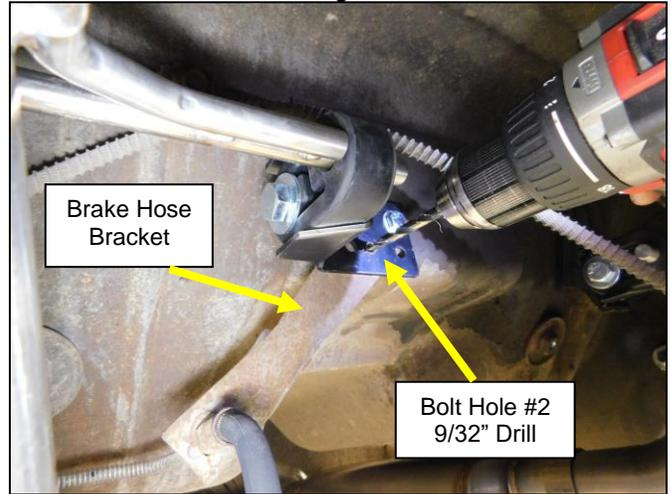

Figure 7
9. Use a 9/32 drill bit and drill a hole in the brake line bracket only. Use bolt hole position #2 as a guide as shown in Figure 7.